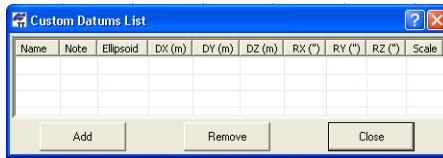

Figure 2-20. Custom Datums List
2. On the *Custom Datums List* (Figure 2-20):